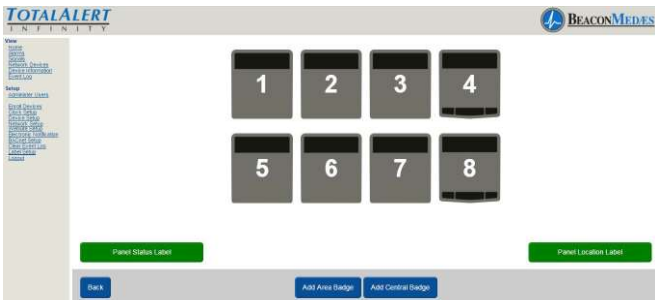

Figure 288
5. To setup the Central badge select the source badge number 1. (See Figure 288) Use the “Add Area Badge” or “Add Central Badge” for the correct number of central and area badges to match the alarm display needed.